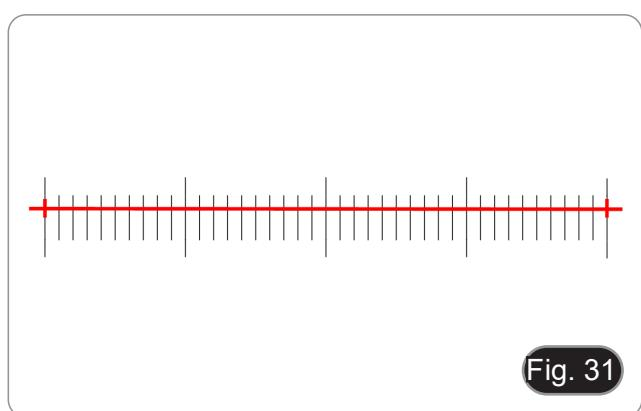

Fig. 31
- Adjust the positions of the calibration start and end points to make the calibration line coincide with the micrometer scale and try to select the maximum length that can be displayed, in order to make the most accurate measurement. (Fig. 31)
- The minimum range of the selected micrometer is 0.01 mm (10 micron). Fig. 31 shows the image under a 10x objective lens. At this time, the "magnification" is set to "10X", the "unit" is marked as "μm", and the "length" is set to "40".